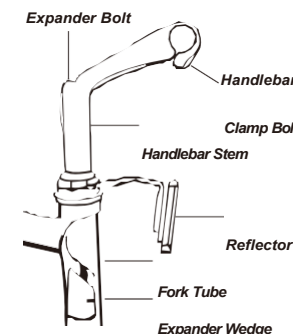

fig.9
Step 3: Handlebar & Handlebar Stem Assembly(refer to fig. 9 and 10)
head stem(refer to fig.9), you must always check that all the bolts are tight before cycling. Based on the situation of standard handlebar stem, please follow the instruction below: